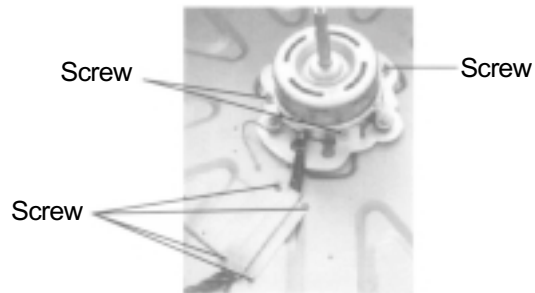

Figure 14
- Unscrew the eight screws as shown in figure 14, and remove the motor.